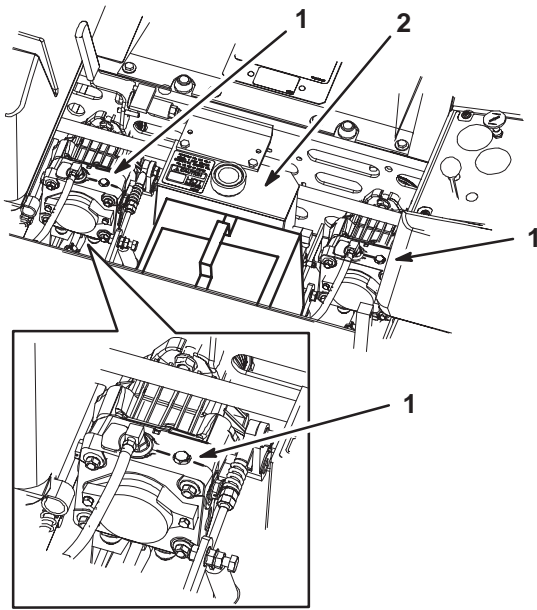

Figure 28
2. Rotate the by-pass valves counterclockwise 1 turn to push. This allows hydraulic fluid to by-pass the pump enabling the wheels to turn (Fig. 28).
1. Rotate the by-pass valves clockwise 1 turn to operate machine (Fig. 28).